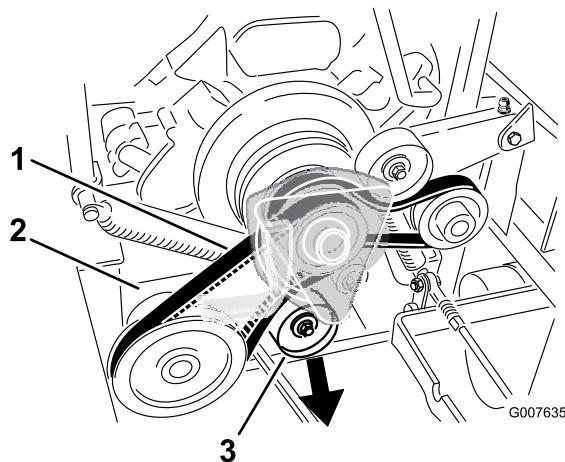

Figure 51
17. Push down on the spring loaded idler for the PTO drive belt and install it onto the clutch pulley (Figure 51).